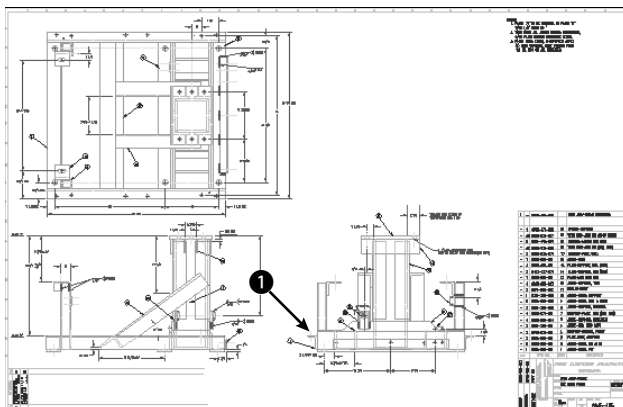
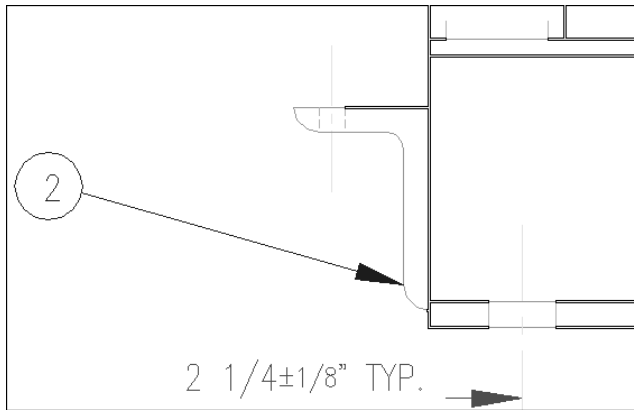

**Figure 20-13:** This drawing of a base assembly for a commercial washing machine has objects that can be linked to the database of parts.
**Figure 20-14:** The horizontal angle.
1. You should have `ab20-01.dwg` open from the previous exercise. The Data View window is open with the database visible. The `_PART_NO_Link1` link template is current. You can see the entire drawing in Figure 20-13.
6. AutoCAD returns you to your drawing. Use the Zoom Window to zoom into the area marked **1** in Figure 20-13.
7. Select all of the objects that make up the angle bracket indicated by **1** in Figure 20-13 (and which the drawing itself labels as 2), as shown in Figure 20-14. Include the two cyan hidden lines representing the hole, but not the yellow centerline. Don't select the vertical line on the right of the angle, which belongs to another part. Press Enter to end the selection. AutoCAD returns you to the Data View table and displays 1 Record(s) linked with 8 Object(s) on the command line.